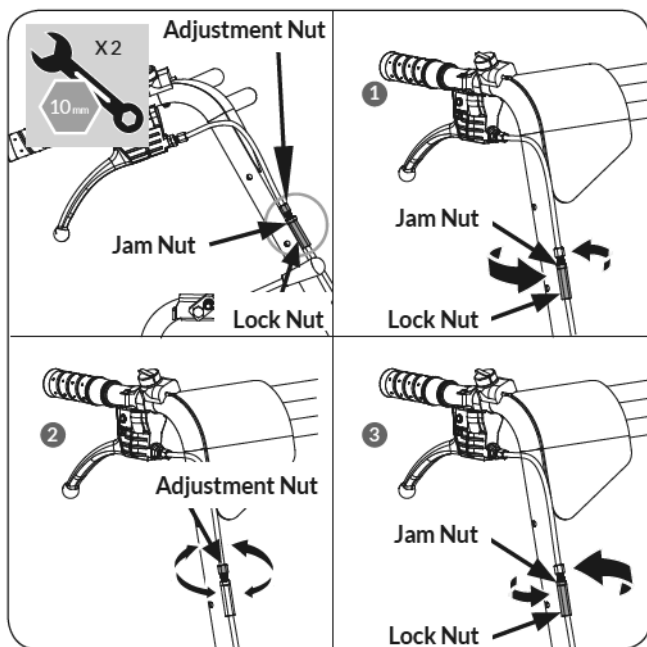

Figure 10a
1. Loosen the jam nut by turning it counter clockwise with 10mm wrench. (see **Figure 10a, Illustration 1**)
2. Tighten or loosen the cable by turning the cable adjustment nut clockwise or counter clockwise with 10mm wrench until you have reached your required tightness. (see **Figure 10a, Illustration 2**)
3. Once tightness is set, return the jam nut against the handle to hold the cable in place. (see **Figure 10a, Illustration 3**)